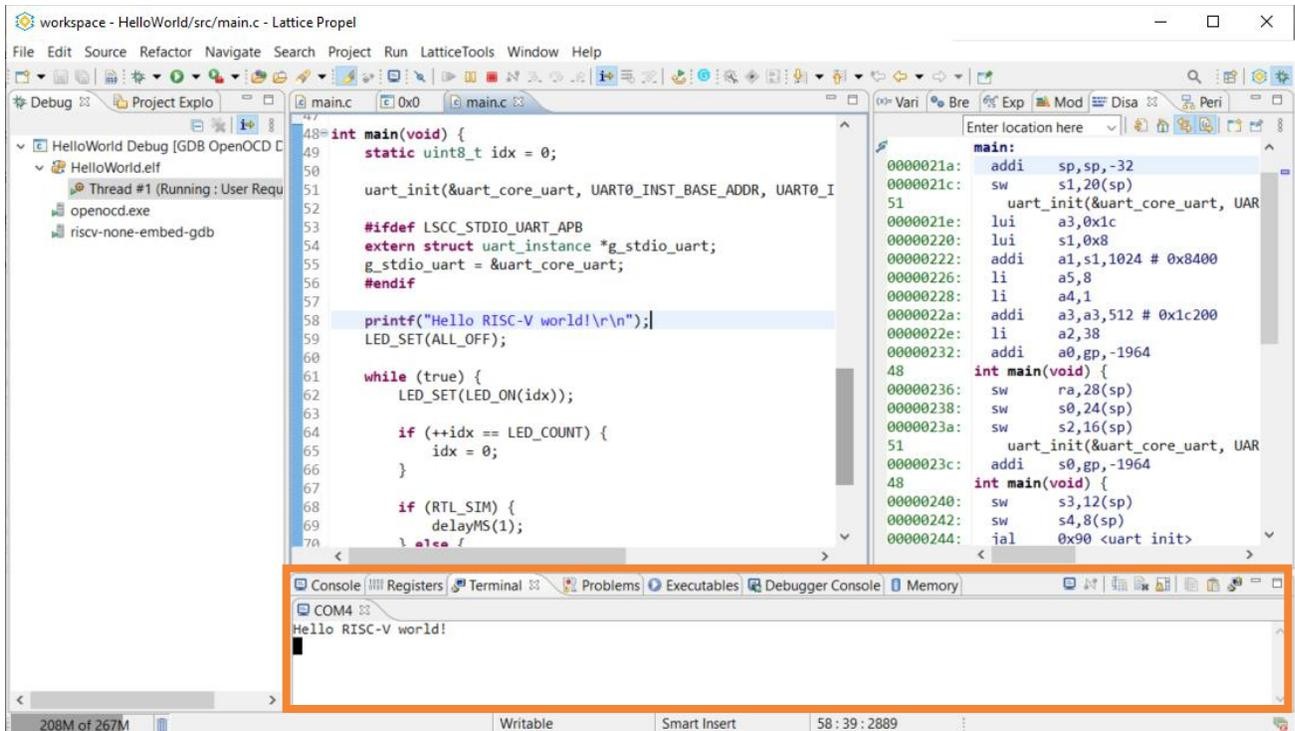

Figure 4.14. Run Result of Hello World Project
9. Click the **Resume** icon  on the toolbar. The serial terminal outputs “Hello RISC-V world!” (Figure 4.14).